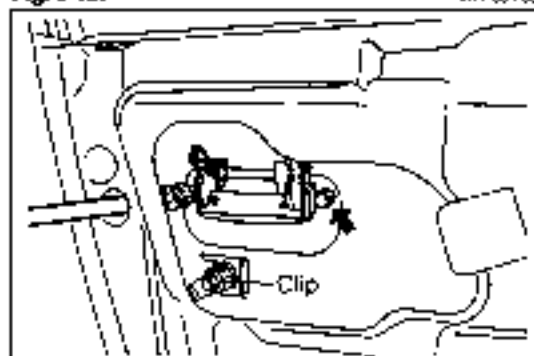

Fig. 9-128 WF-09140
- 1. Install the front door outside handle assembly with the two bolts. (See Fig. 9-128.)
- 2. Install the key cylinder into position with the clip. (See Fig. 9-128.)